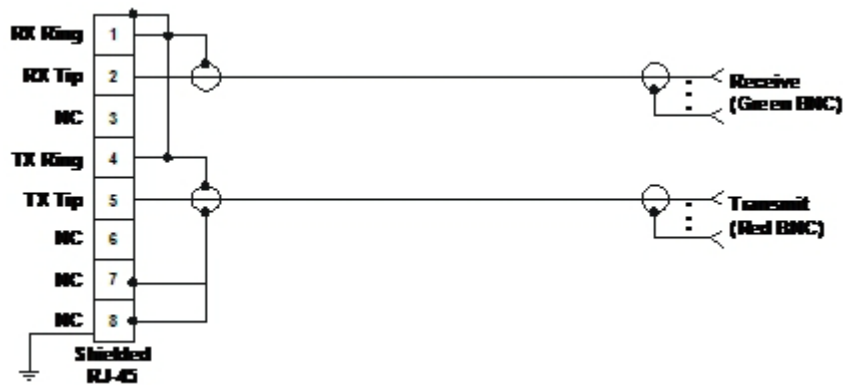

Figure B-3: Unbalanced E1 adapter cable (Y Splitter) - schematic
**Figure B-3** provides a schematic: